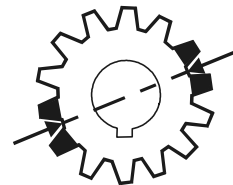

Figure 67 – Main Drive Gear Timing Marks
- c. Mark the two adjacent teeth located directly opposite the first set marked on the main drive gear. As shown below, there should be an equal number of unmarked gear teeth on each side between the marked sets (refer to Figure 67).